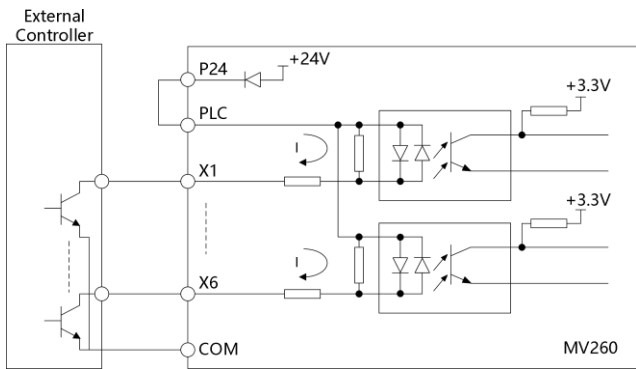

Fig.3-13 The source connecting mode when using the internal +24V power supply of the drive
(2) Source (drain) mode
① When the internal +24V power supply is used and the external controller is the NPN common emitter output, the wiring mode is as shown in Fig.3-13.